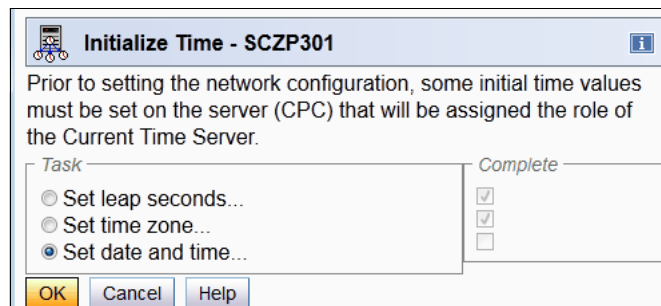

Figure 6-48 Initialize Time - Set date and time
4. Click **OK** to clear the message and return to the Initialize Time window (Figure 6-48).
As in Figure 6-48, select the **Set date and time** radio button and click **OK**.